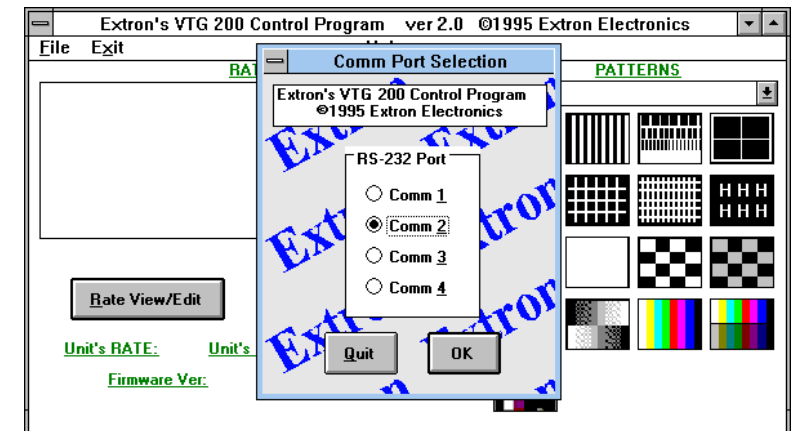

Figure 5-6C ↑
3. A Comm menu will be displayed on the screen. (See Figure 5-6C.) Click on the Comm port that is connected to the VTG 200 RS-232 connector.